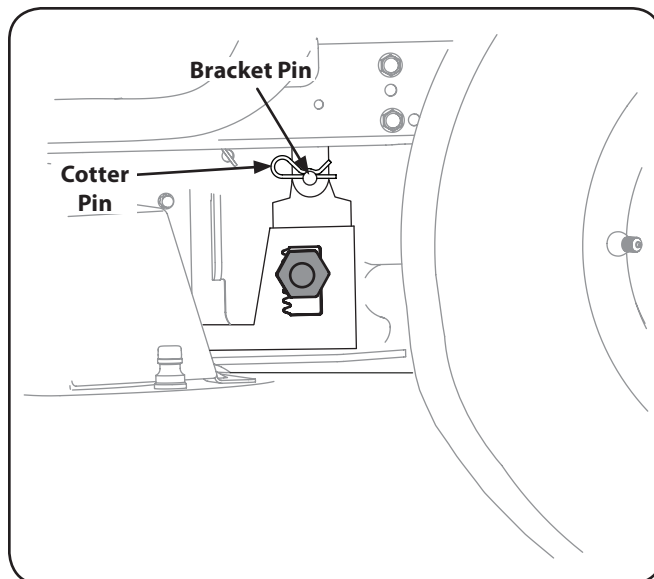

Figure 7-7
4. Once the brackets are properly aligned, slide the pin on the deck lift adjustment bracket into the lift bracket and secure with cotter pins. See Fig. 7-7.